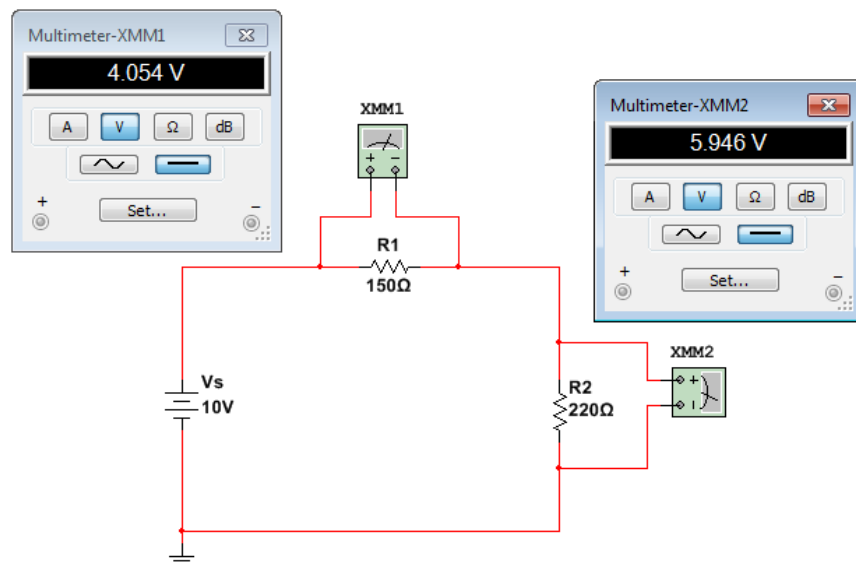

Figure 4.17 – Voltage measurement across  $R1$  and  $R2$
- Since the circuit at Figure 4.16 is set to measure dc voltage, to do so, click on Voltmeter  to measure the voltage between two nodes. Check Figure 4.17.